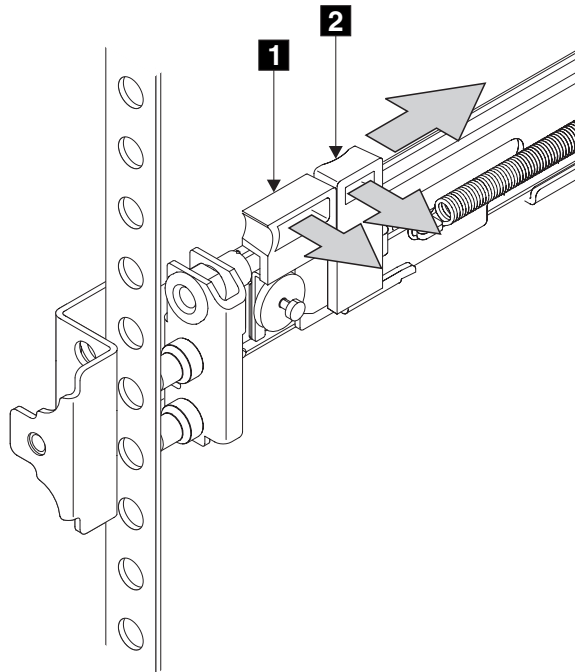

Figure 31. The left support rail for the SAN Volume Controller
- Put your left index finger onto the back edge of the latch lever **2** and your left thumb on the front edge of the latch lock **1**, as shown in Figure 31.